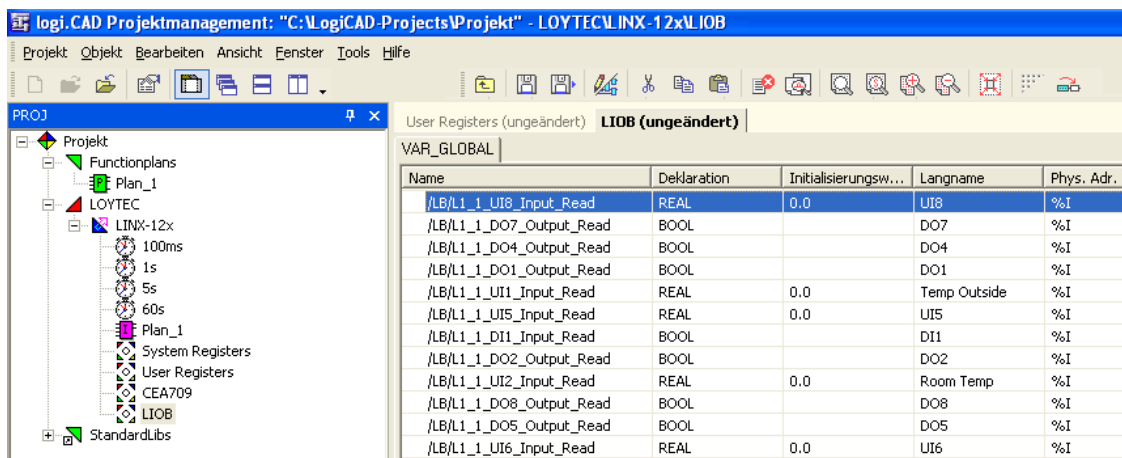

Figure 25: Exposed PLC data points appear in LogiCAD
- The data points now appear as variables in LogiCAD in a folder under the device folder. The folder is named specific to the technology of the data points, e.g. LIOB for all L-IOB I/Os that are exposed as a PLC variable. An example is shown in Figure 25.